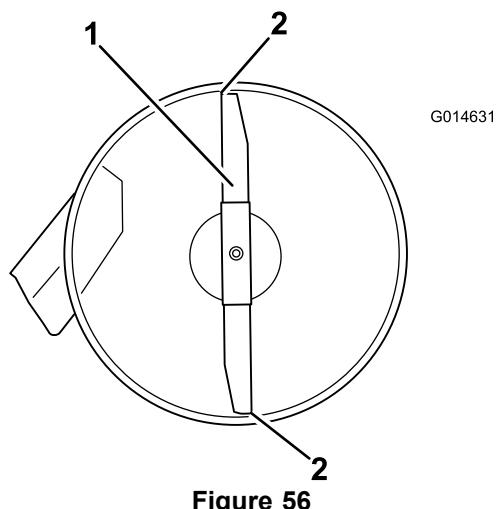
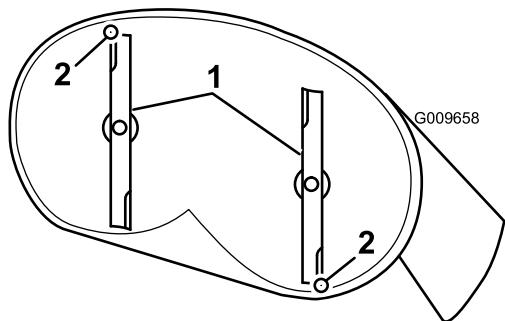

Figure 56
Figure 57
4. Carefully rotate the blades so they are facing front to rear (Figure 56 and Figure 57).
5. Measure from the tip of the front blade to the flat surface and the tip of the rear blade to the flat surface (Figure 56).
9. After adjustment, check the front-to-rear slope again, continue adjusting the nut until the front blade tip is 1.6 to 7.9 mm (1/16 to 5/16 inch) lower than the rear blade tip (Figure 56).